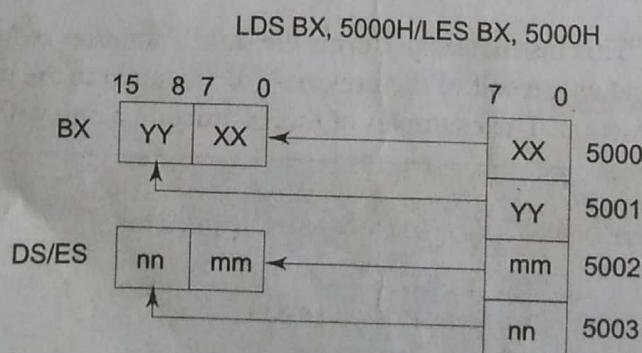

Fig. 2.5 LDS/LES Instruction Execution
**LDS/LES: Load Pointer to DS/ES** This instruction loads the DS or ES register and the specified destination register in the instruction with the content of memory location specified as source in the instruction. The example in Fig. 2.5 explains the operation.